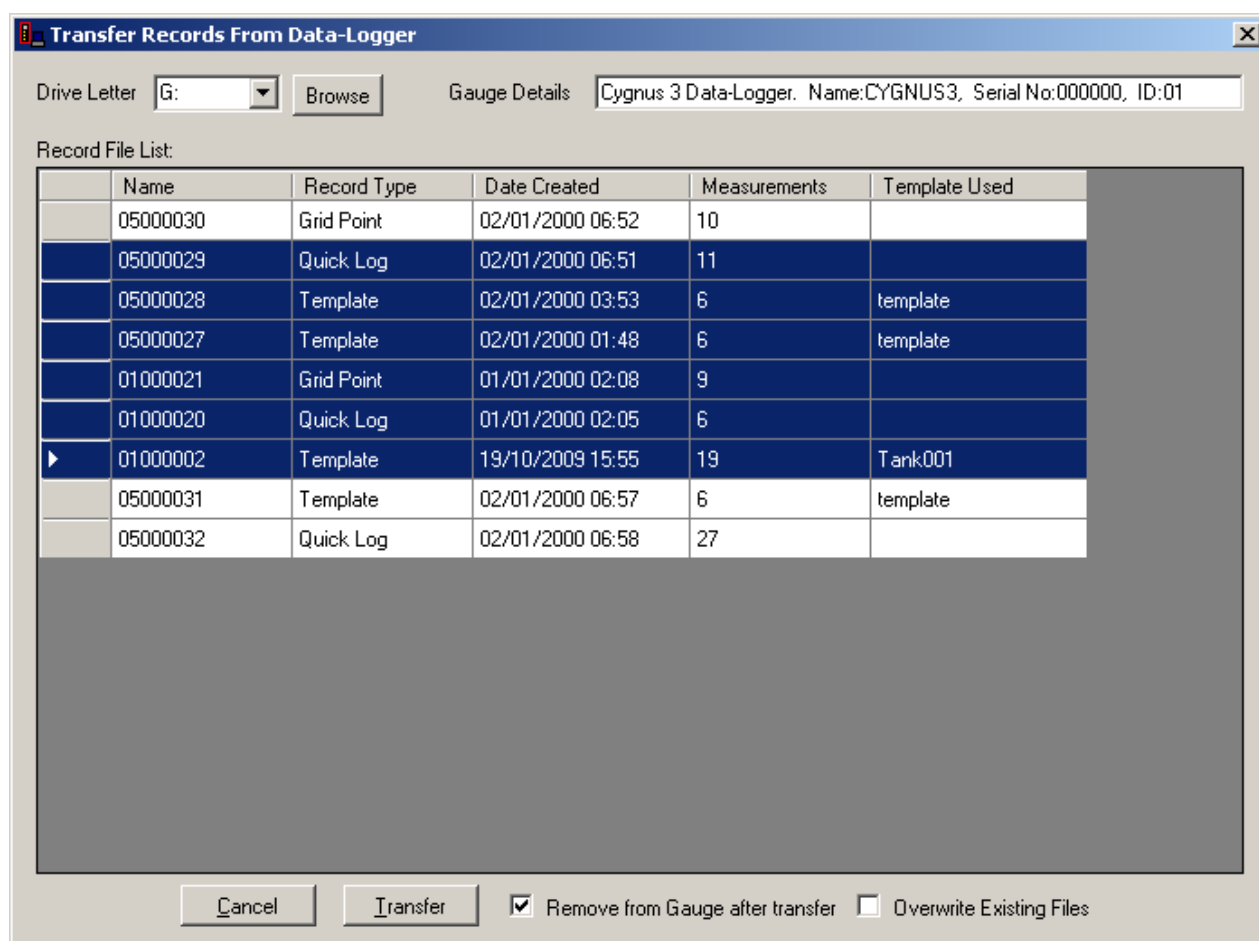

Fig 9.5 Transfer Records from Data Logger
**'Transfer Records from Gauge'.** The **'Transfer Records from Data Logger'** dialog box will be displayed, Fig 9.5.